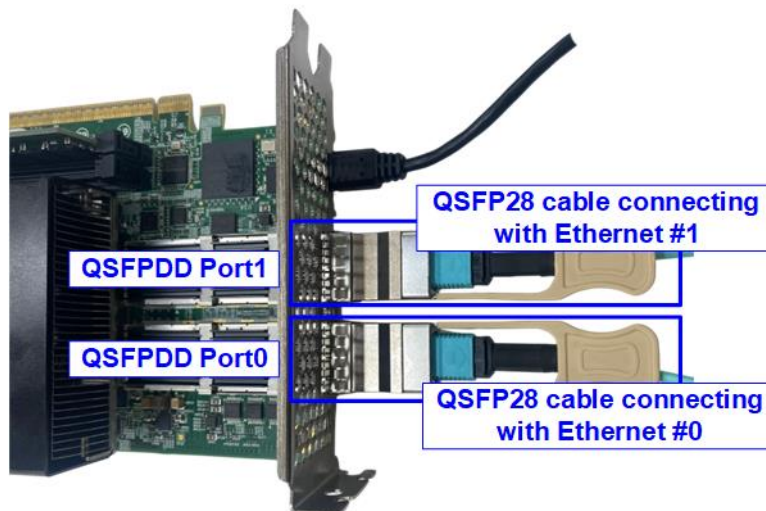

Figure 4 100G Ethernet Connection
- 3) Establish the 100G Ethernet connections by inserting two 100G Ethernet cables into the FPGA board, connecting the FPGA board to two 100G Ethernet devices, as shown in Figure 4.